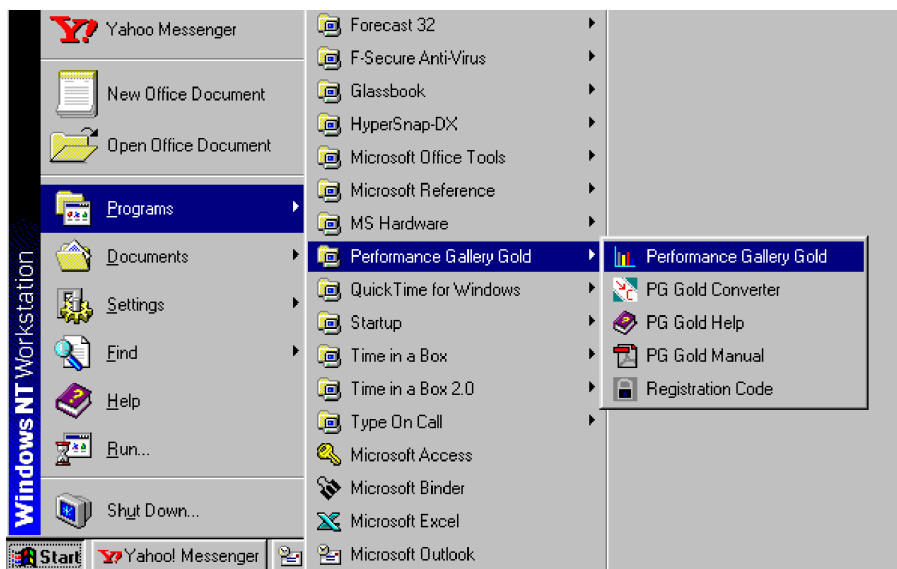

Figure 5.1 Starting up Performance Gallery Gold
- 2 Click on **Performance Gallery Gold**. Your program file may be nested in another folder, as shown in Figure 5.1.